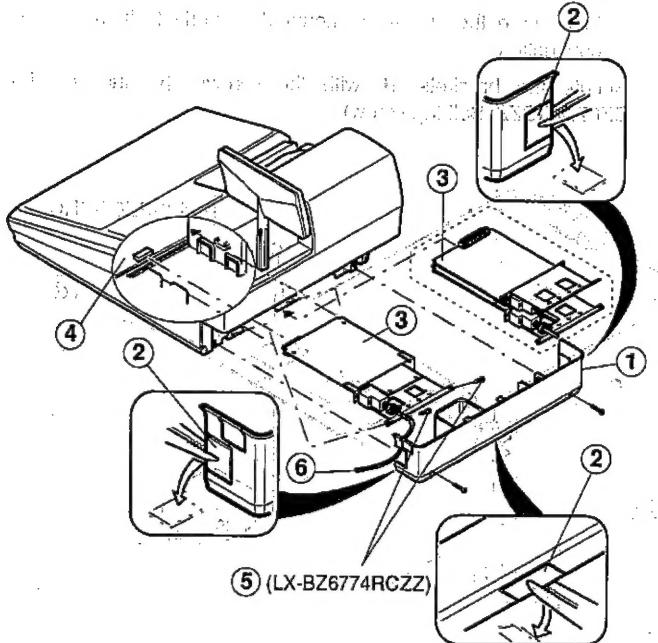

Fig. 4
- 3) Remove two rear cover holding screws and remove the rear cover ① (Fig.4).
- 4) Break open the knockout ② of the rear cover ① (Fig.4). After breaking open the knockout ②, file off the new hole.
- 5) Insert the interface PWB ③ onto the connector of the main PWB ④, and fasten the bracket to the main chassis using screws ⑤ (LX-BZ6774RCZZ: Self tap screw) (Fig.4).
- 6) Route the external cable (⑥) through the hole and fasten the rear cover (Fig.4)
In the ER-A550, option cables can be pulled out from three points in the rear cover of the body. Refer to figs. 4, 7, 8 and 9.